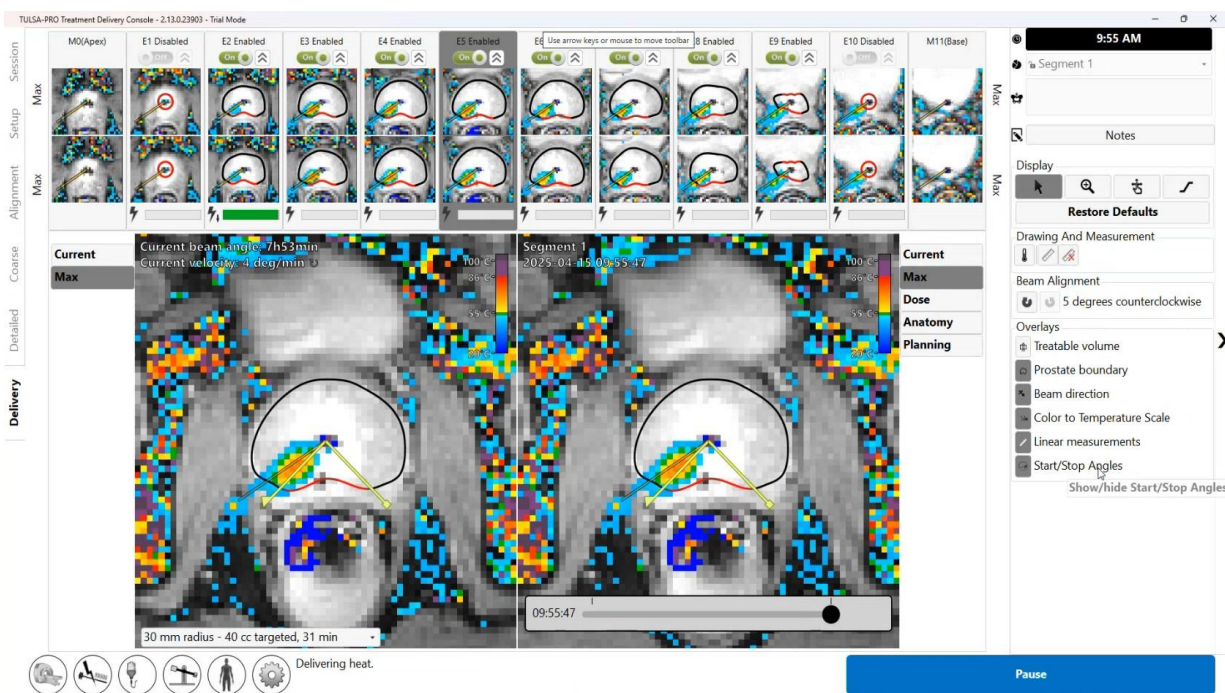
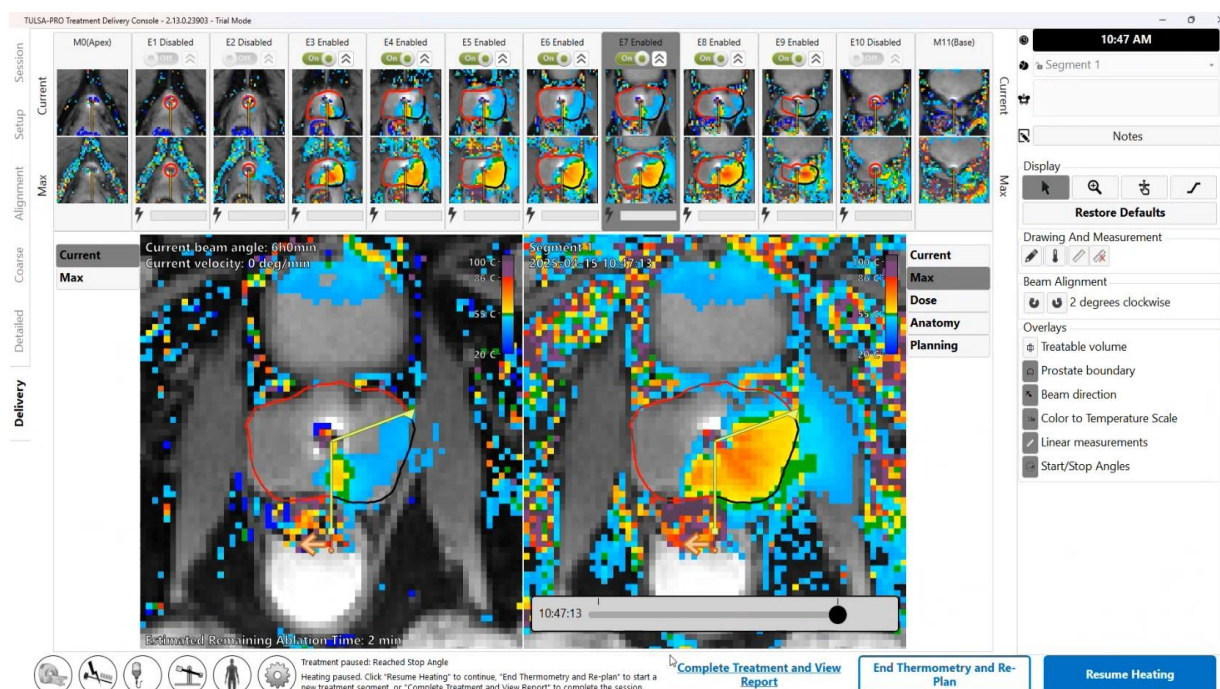

Figure 48: Ultrasound heating has begun
Figure 54: Delivery workspace with treatment and heating paused
**Radiologist:** After receiving 25 thermometry dynamics, heating begins (Figure 48). Throughout the ablation, actively monitor real-time treatment images on all slices, ensuring that:
**Radiologist:** At any time during Delivery, click **Pause** in the bottom-right corner of the screen (see Figure 48). While in the paused state, all heating from the UA is suspended while thermometry acquisition continues (Figure 54).